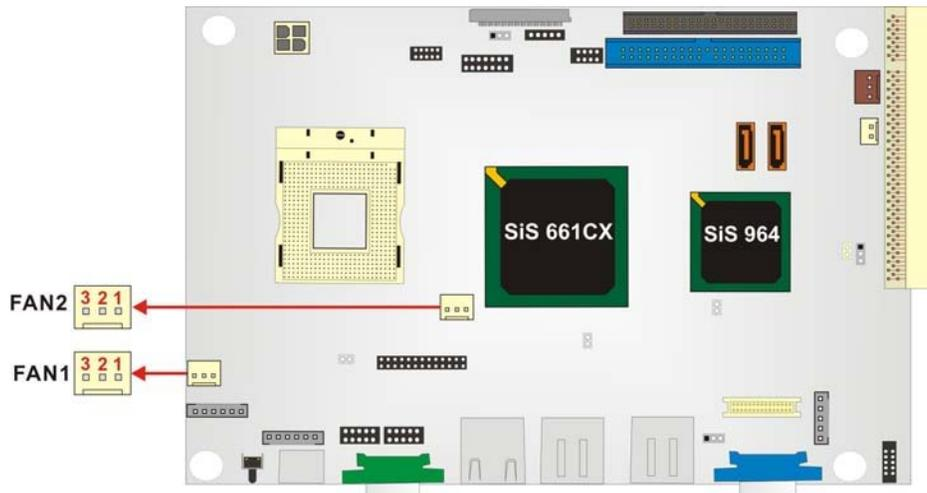

Figure 3-8: Fan Connector Locations
- CN Location:** See Figure 3-8